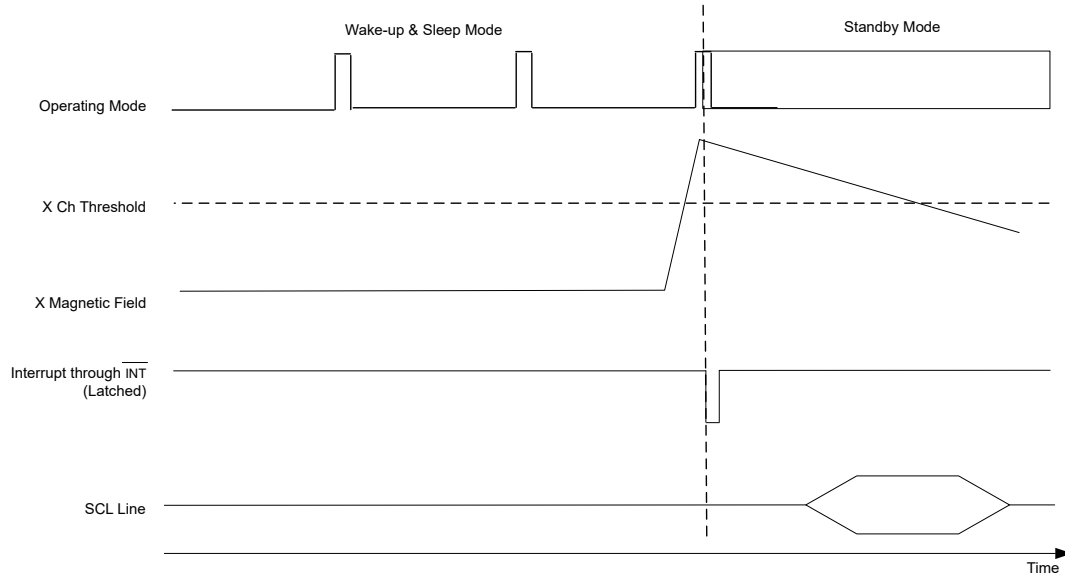

图 8-11. Wake-Up and Sleep Mode Operation With Back-Up Battery
- If a threshold detection even occurs, the $\overline{\text{INT}}$ signal asserts low to wake-up the microcontroller. When $\overline{\text{INT}}$ goes low, perform the 16-bit T, X, Y, Z register read with one single read command (see 图 8-11).